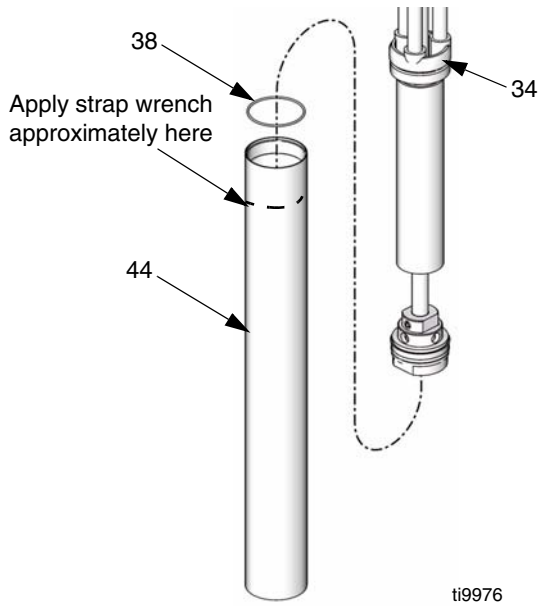

FIG. 17
- Use a strap wrench at the point indicated in FIG. 17, remove suction tube (44) from pump body (34). Inspect o-ring (38) on pump body and suction tube for damage. See FIG. 17.